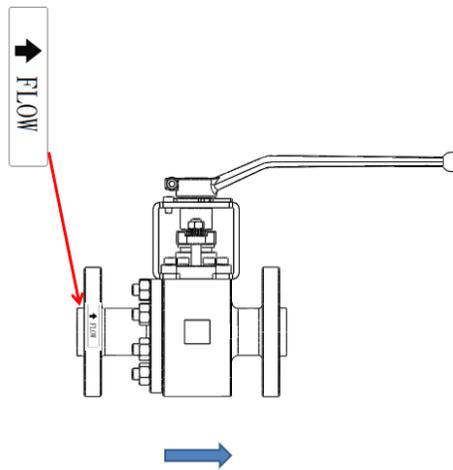

Figure 1: Flow Arrow Location
- 2.1 Valves are designed with a preferred flow direction; a flow arrow on the valve indicates the preferred flow. The valve should be installed with the arrow pointing toward the low-pressure side when the valve is in the closed position. See Figure 1 below: